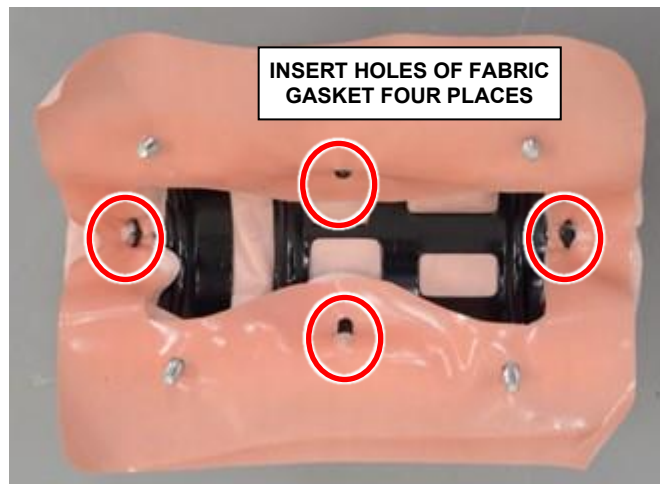

Figure 17 – Fabric Gasket
- g. With the help of a trim tool insert the holes of fabric gasket, four places (Figure 17).